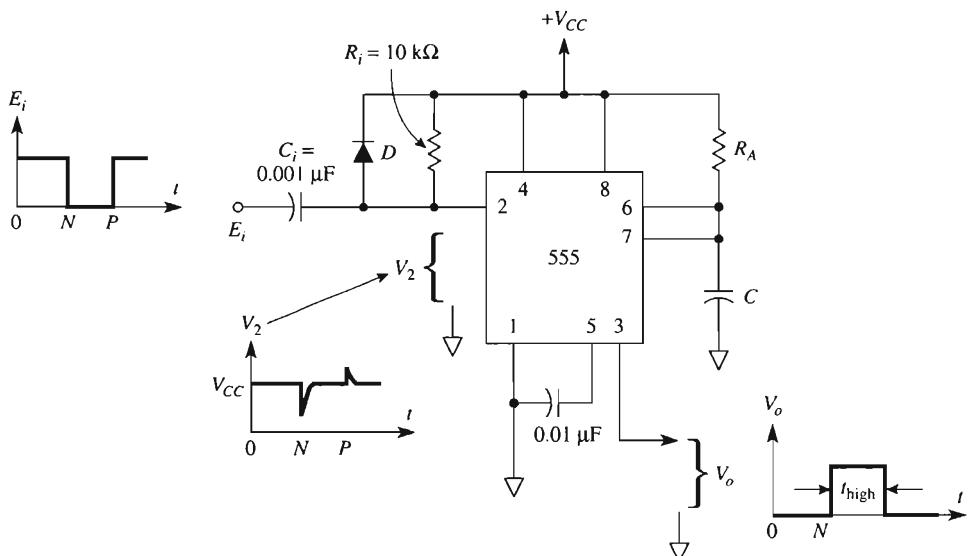

FIGURE 13-12 For satisfactory monostable operation, the input pulse network of R_i , C_i , and *D* is needed.
Figure 13-12 shows the multivibrator wired for monostable operation in contrast with Fig. 13-11(a). R_i , C_i , and diode *D* are needed to generate a single output pulse for one input pulse. Resistor R_A and capacitor C determine the time that the output is high, as given by Eq. (13-9). Resistor R_i is connected between V_{CC} and pin 2 to ensure that the output is nor-
mally low. C_i is charged to $(V_{CC} - E_i)$ until the negative-going trigger pulse occurs. The time constant of R_i and C_i should be small with respect to the output timing interval t_{high} . Diode D prevents the 555 timer from triggering on positive-going edges of E_i . Waveforms for the input pulse, E_i , the pulse at pin 2, V_2 , and the output pulse, V_o , are all shown in Fig. 13-12.
(a) If $R_A = 10 \text{ k}\Omega$ and $C = 0.2 \mu\text{F}$ in Fig. 13-12, find t_{high} . (b) What is the time constant of R_i and C_i in Fig. 13-12?
Figure 13-12 also can be used as a frequency divider if the timing interval is adjusted to be longer than the period of the input signal E_i . For example, suppose that the frequency of E_i is 1 kHz, so that its period is 1 ms. If $R_A = 10 \text{ k}\Omega$ and $C = 0.1 \mu\text{F}$, the timing in-
- (a) Calculate the timing interval in Fig. 13-12 if $R_A = 10 \text{ k}\Omega$ and $C = 0.1 \mu\text{F}$.